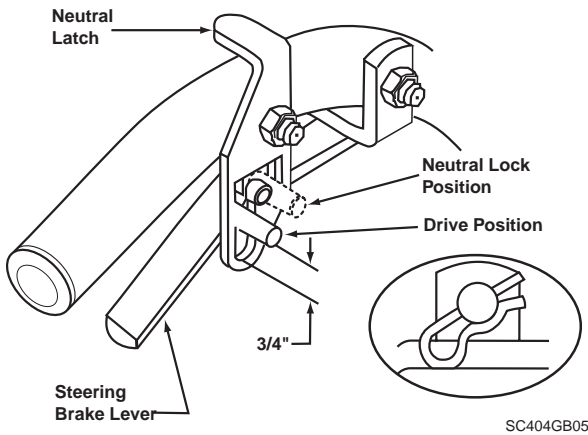

Figure 4. Steering Control Rod Adjustment
1. Adjust the steering control rods so that there is approximately 3/4" clearance from the bottom of the rod to the bottom of the neutral latch slot when in the drive position. (See Figure 4).